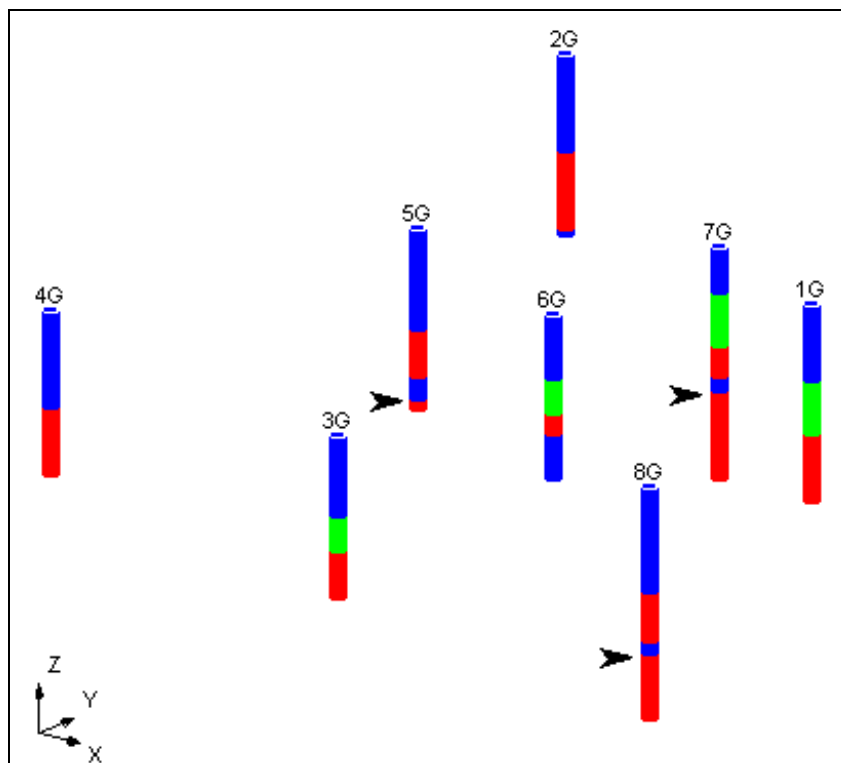

Figure 4. Contacts for Horizon 1.
- Select the top of the lower red material on hole 8G as shown in Figure 4 above.